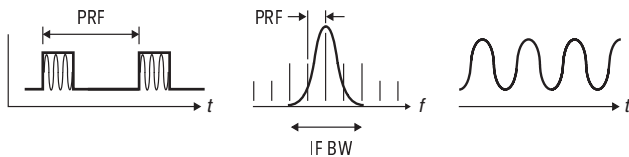

Figure 8. When PRF is greater than the IF bandwidth, pulse sidebands are rejected.
3. The final case is when the PRF is greater than the sampling rate of the analyzer's ADC. In this case, the IF filter measures only the center spectral line (carrier) of the pulsed-RF spectrum as if it were a CW signal in a nonpulsed network analyzer configuration (Figure 8). Since this type of measurement actually filters off the modulation sidebands, the PRF of the pulse does not affect the measurement. Only changes to the duty cycle affect the measurement.